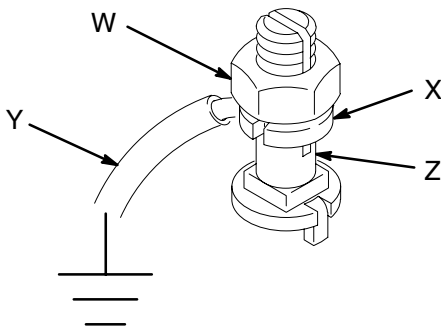

Fig. 2
All Other Pumps: use a ground wire and clamp. See Fig. 2. Loosen the grounding lug locknut (W) and washer (X). Insert one end of a 1.5 mm@ (12 ga) minimum ground wire (Y) into the slot in lug (Z) and tighten the locknut securely. Connect the other end of the wire to a true earth ground. Order Part No. 237569 Ground Wire and Clamp.